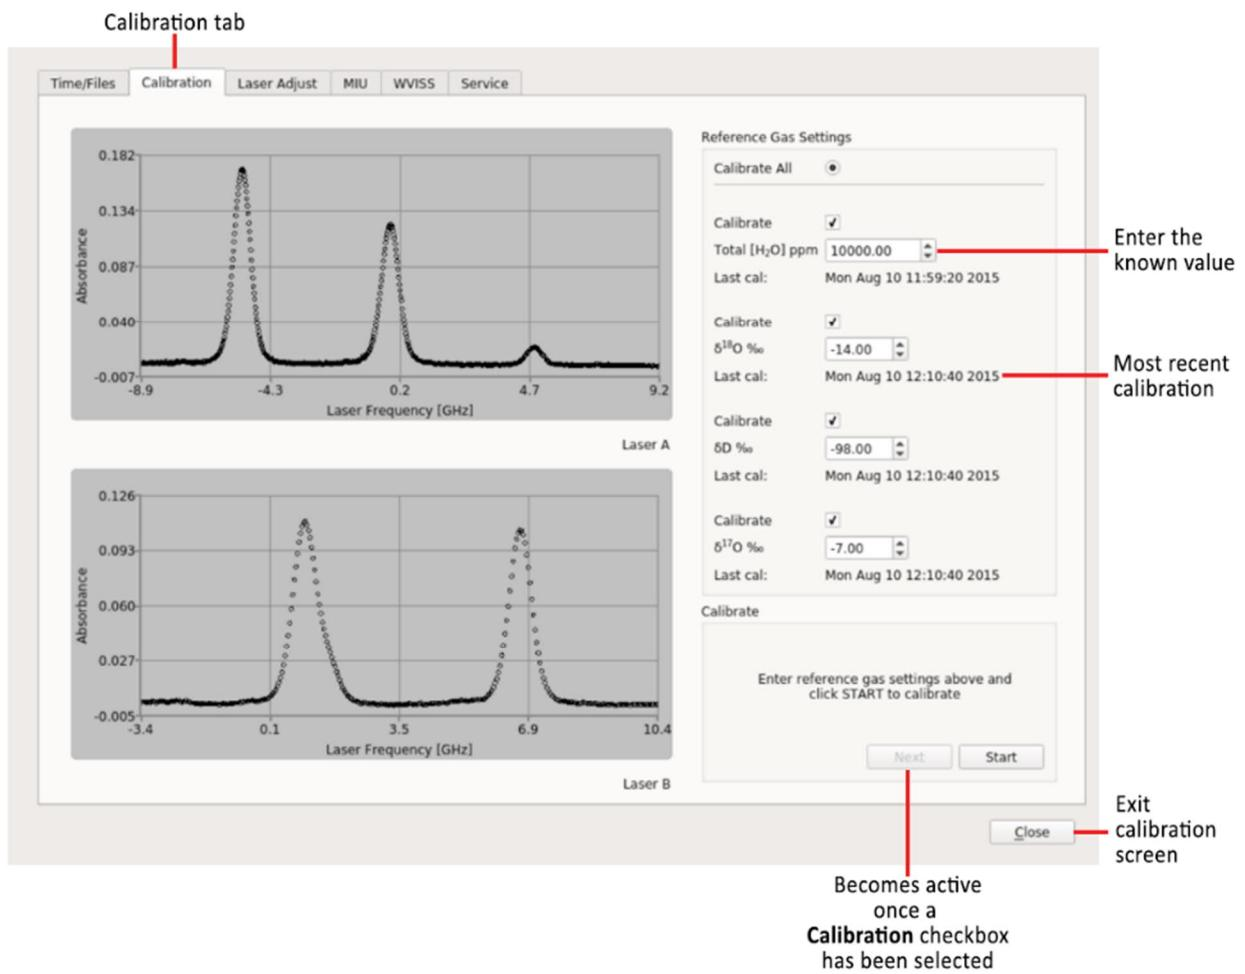

Figure 92: Calibration menu
6. Select the Calibration tab at the top of the screen to enter the *Calibration* menu. (Figure 92)
7. Enter 10,000ppm into the Total [H2O] ppm field. (Figure 92)
8. Enter the values of δD, δ18O and δ17O in PP\_MIL (‰) that are labeled on the Water Standard Bottle. (Figure 92)
9. Click the NEXT button on the lower, right panel of the screen to begin calibration. (Figure 92)
11. When the *Calibration Complete* message is displayed, click the CLOSE button. (Figure 92)